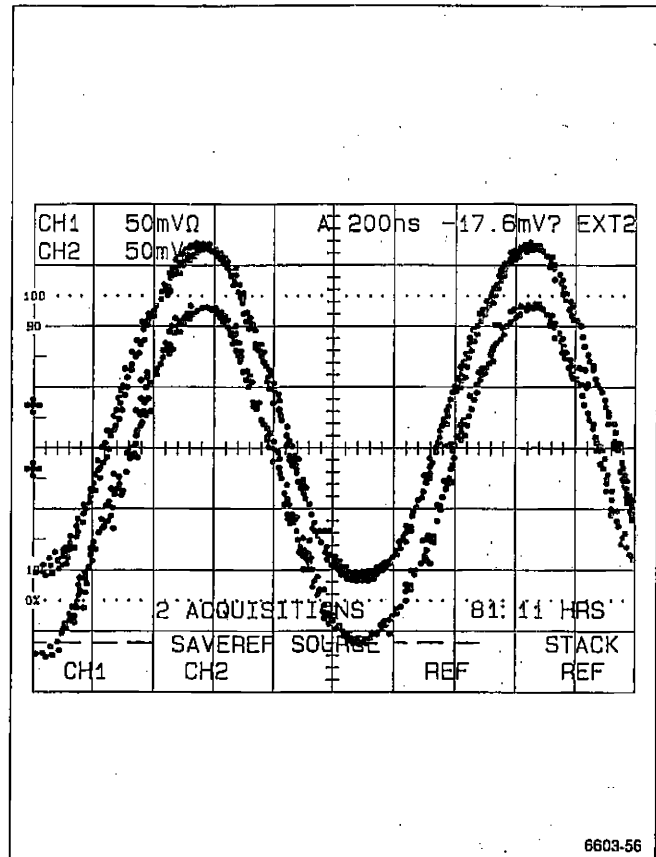

Figure 5-10. Typical CH 1 and CH 2 displays after clock adjustment.
2. **Verify good alignment of, and between, CH 1 and CH 2 waveforms:** Push SAVE and use the CH 1 and CH 2 POSITION controls to position the CH 1 and CH 2 for easy viewing. Check that the four sides of both the CH 1 and CH 2 waveforms are well-aligned and appear as single sine wave in each channel (see Figure 5-10). Now use the VERTICAL POSITION knobs to superimpose the CH 1 and CH 2 waveforms. Check that the CH 1 and CH 2 waveforms are well aligned; i. e., the superimposed sine waves should look like a "fatter" version of the CH 1 and CH 2 sine waves.